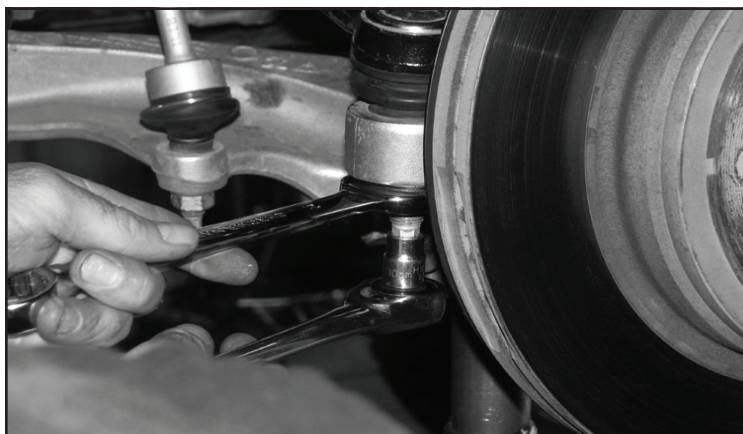

FIGURE 16 - STEP 13
13. Install the tie rod into the spindle. Torque to 117 ft-lbs **SEE FIGURE 16**
14. Re-install the brake line into the bracket with the factory bolt. Torque to 52 ft-lbs. **SEE FIGURE 16**